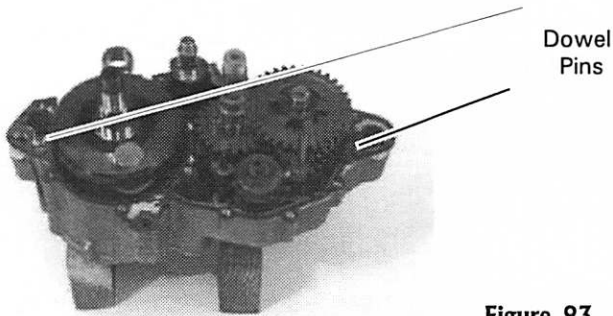

Figure 93
16. Install a new gasket on the magneto side crankcase, aligning the gasket with the dowel pins (Figure 93). Trim the gasket to remove the bridge across the cylinder and base gasket opening.